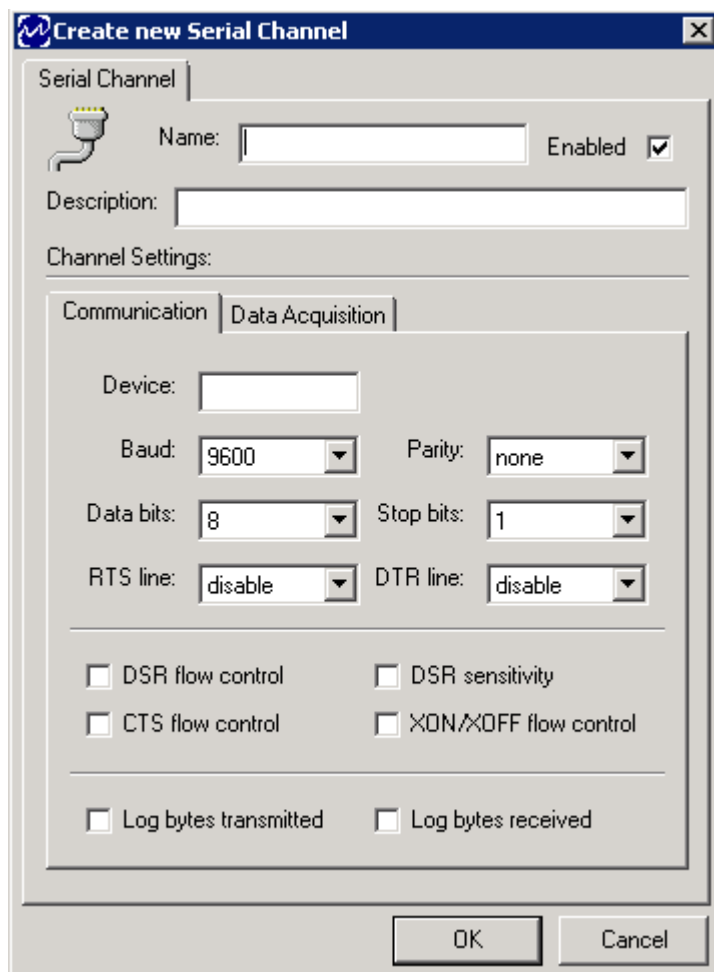

Figure 18 - Create New Serial Channel Window - Communication Tab
The **Create New** window (Figure 18) displays the settings available when creating a **Serial Channel** object.
Figure 18 displays the **Create New Serial Channel – Communication** tab.
- The **Create New** window appears (Figure 18).